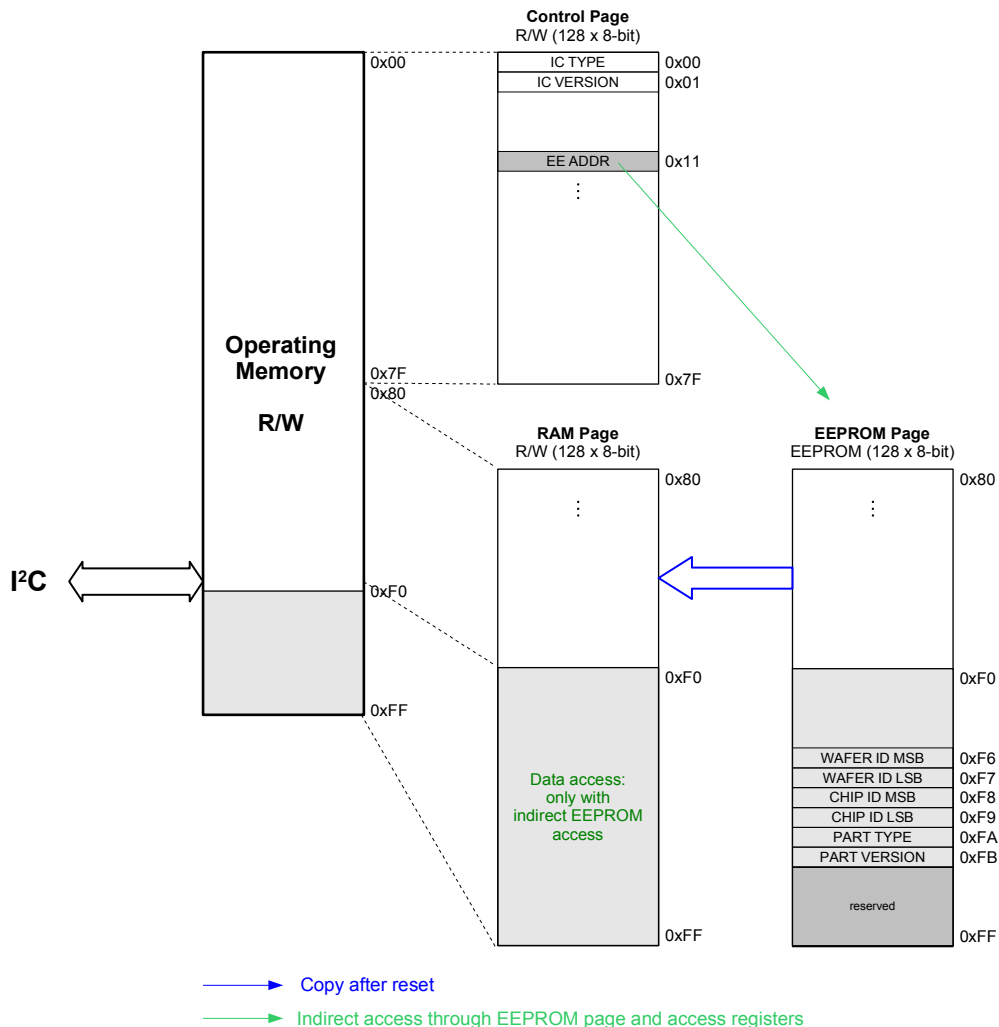

Figure 60: Memory map
The I²C-bus interface allows accessing the RW registers and the programming of the EEPROM registers which store the configuration parameters. It is the only interface through which the configuration registers can be accessed (Figure 60 and Table 32) by the application. It works as a slave device according to the I²C specification (refer to chapter 16.2.) with a transfer rate of up to 400 kbit/s in Fast Mode (FM) or 1Mbit/s in Fast Mode plus (FM+). The I²C master such as an external CPU can set the transfer speed simply by driving the SCL input at that frequency (up to 1MHz), therefore there is no prior register configuration or setting necessary.